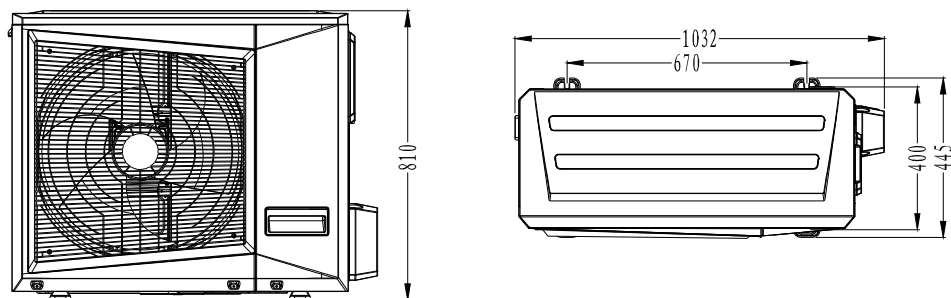

Fig. 3-2 Dimension of Outdoor Unit
2) Fig. 3-2 is applicable for models of 10kW, 12.5kW(380V-415V)